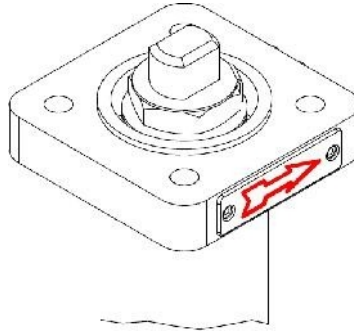

Figure 1. Arrow plate – Doesn't always indicates the direction of the flow
2.1.1. Microfinish cryogenic ball valves are unidirectional; valve installation shall be in the direction indicated by the **arrow** mark attached to the body and bonnet (Refer Figure1). The arrow indicates the High pressure (HP) side, at its tail, and the low pressure (LP) side, at the arrow head. The arrow direction does not always indicate the normal direction of cryogen flow; on the contrary, in most applications the valve should be installed with the arrow pointing in the opposite to the normal direction of cryogen flow. To clarify this issue, the high pressure side should be specified when the flow stops and the valve is in its closed position; **Although it may seem trivial, Microfinish has found this to be a very common error in industry which causes double the work, a waste of raw materials, and even a safety concern.**